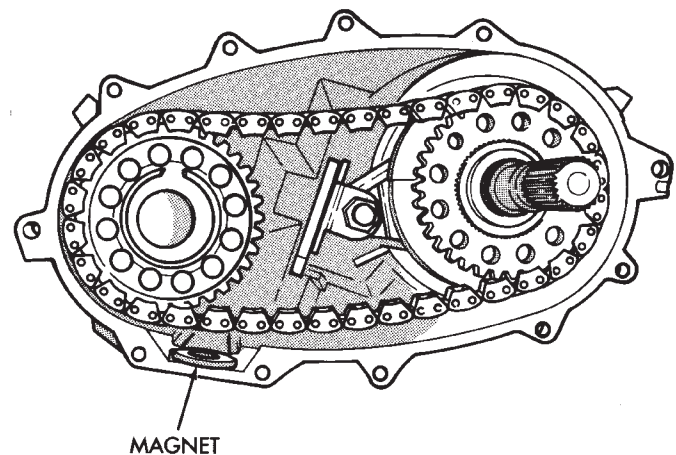

Fig. 80 Installing Case Magnet
(60) Install magnet in front case pocket (Fig. 80).